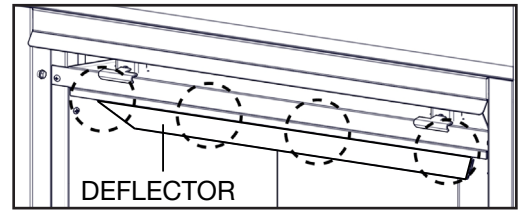

Fig. 1
- C. To ease assembly, remove the four hex head screws securing the deflector from inside the top front of the firebox (**Fig. 1**).